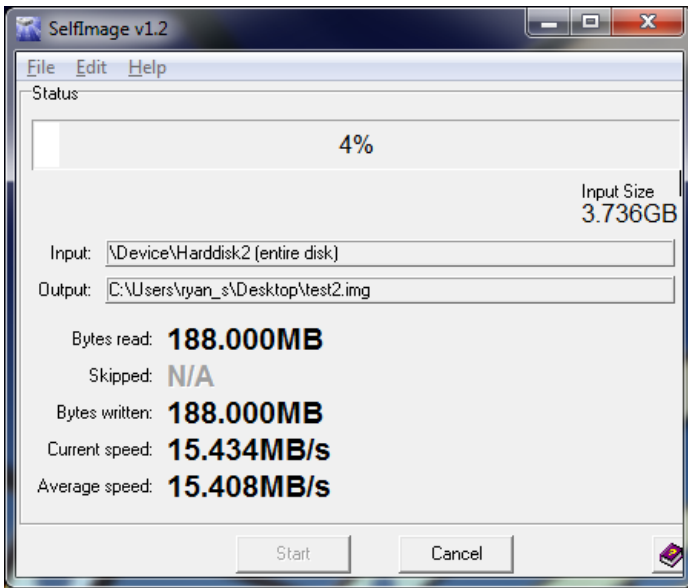

Figure 11: Progress Window
- (e) Click **Start**. This process can take between 15 and 60 minutes depending on the speed of your computer. A progress window (see Figure 11) appears to indicate the progress. It reverts back to the original SelfImage window when complete.